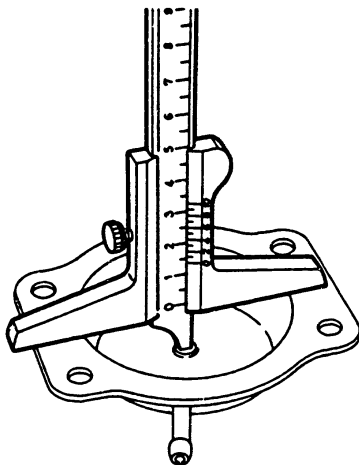

Fig. 121 Measuring the distance  $\ell_1$
- 1. Measure the distance  $\ell_1$  between the tip of the indentation in the cover (67/49) and the inside face of the cover (67/49). (Fig. 121)